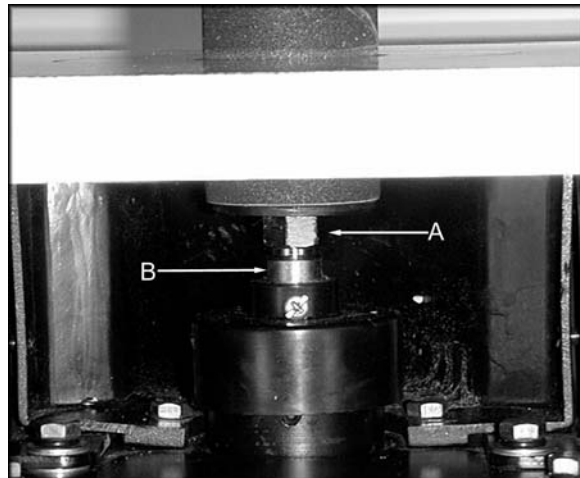

Figure 3
- 3. Using the provided wrenches, tighten the spindle nut (A, Figure 3) counterclockwise while holding the spindle housing flat (B, Figure 3) with the other wrench. NOTE: Do not over-tighten the spindle as it may be difficult to remove after the sanding operation.